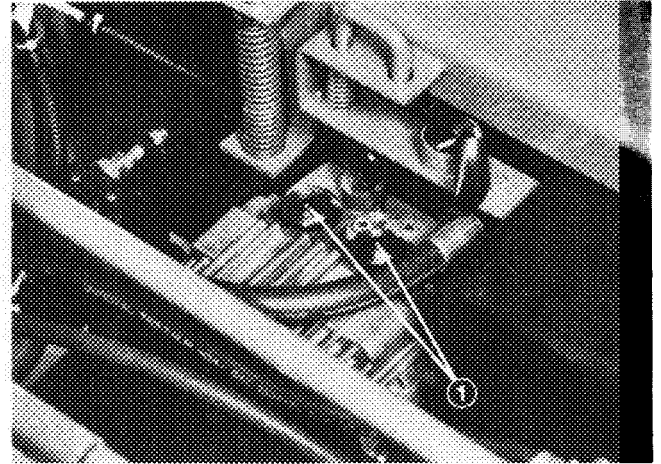
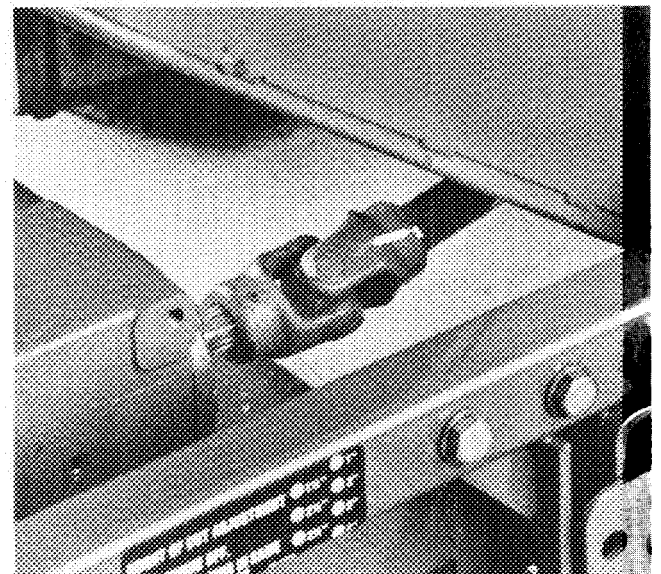

Figure 15
Figure 16
of the two (2) check valve assemblies in the top of the transmission (Fig. 15) while pushing or towing the machine.
Apply a liberal coating of grease to the check valve pins once each year (Fig. 15). Also grease the bearings in the Dana axle every 500 hours, or yearly, whichever comes first (not shown). The traction unit has bearings and bushings that must be lubricated, and these lubrication points are: PTO shaft (Fig. 16); lift arm pivot bushings (Fig. 17); intermediate steering arm pivot bearings (Fig. 18); brake pivot bushings (Fig. 18); PTO shaft engaging lever bearings (Fig. 19); rear wheel spindle bushings (Fig. 21); steering plate bushings (Fig. 20); axle pin bushing (Fig. 20); and PTO idler assembly bearings (Fig. 22). Also apply grease to both brake cables at the drive wheel and brake pedal ends (Fig. 18).